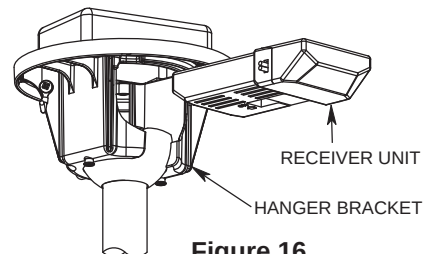

Figure 16
- ☐ 4. Connect green wires from hanger bracket and hanger ball to bare (ground) wire using wire connector supplied. Connect black wire from receiver unit marked "AC IN L" to black supply wire using wire connector supplied. Connect white wire from receiver unit marked "AC IN N" to white supply wire using wire connector supplied. Connect white wire from receiver unit marked "TO MOTOR N" to white wire from fan using wire connector supplied with receiver. Connect black wire from receiver unit marked "TO MOTOR L" to black wire from fan using wire connector supplied. Lastly, connect blue wire from receiver to the blue fan light wire using wire connector supplied. Position all connected wires and receiver antenna to allow installation of ceiling canopy (Figure 16).